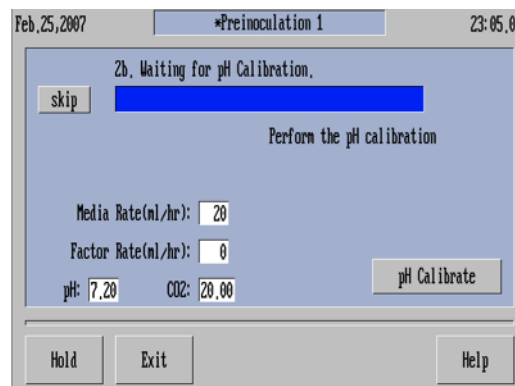

Figure 8-23: Setup Run 2 Screen
18. Fill/Flush automatically begins after a successful pressure test. Allow the Fill/Flush procedure to complete and the *Preinoculation 1* screen to appear with the instruction, *Perform the pH calibration*, figure 8-23.
- Press the *pH Calibrate* button on the screen in figure 8-23.
- Press the *pH Calibrate* button on the screen in figure 8-23. Perform a standard pH calibration using the information provided in the *Operating Procedures* section of the manual.